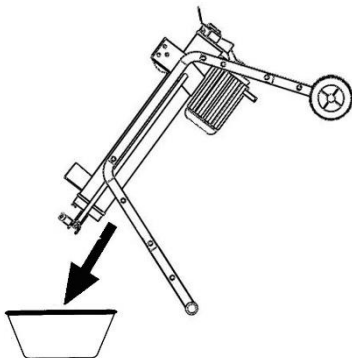

Fig.5
3. Rotate the log splitter on the support leg over a 4-liter container to drain the hydraulic oil (Fig.5).